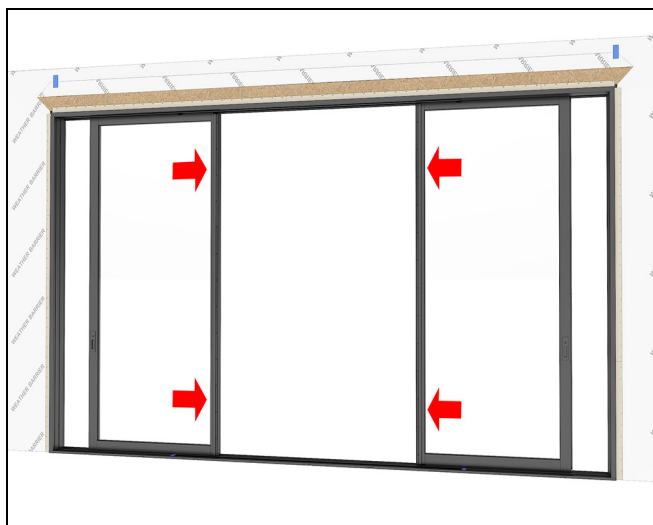

Figure 149
4. Unlock and move the operator panels away from the jambs about 12". See Figure 149.